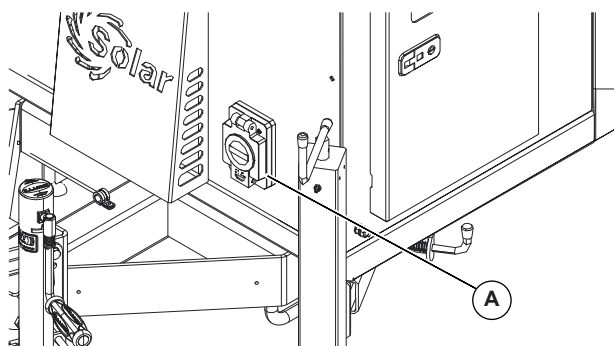

Figure 3-11. Charge Inlet Plug
Connect 120VAC, 20A rated extension cord to charge input plug (A). See Figure 3-11.